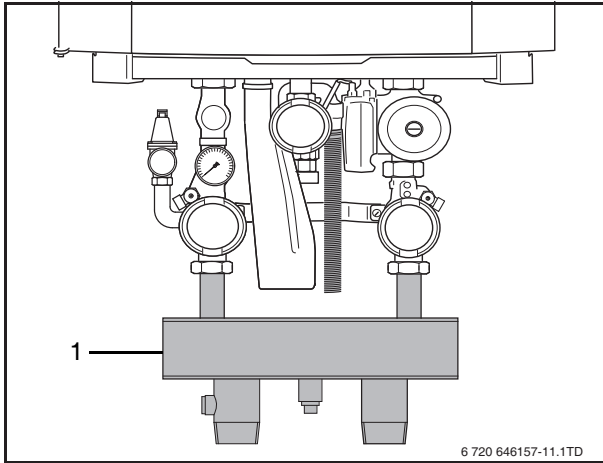

Fig. 11 Low loss header
- Install the low loss header (fig. 11, [1]).